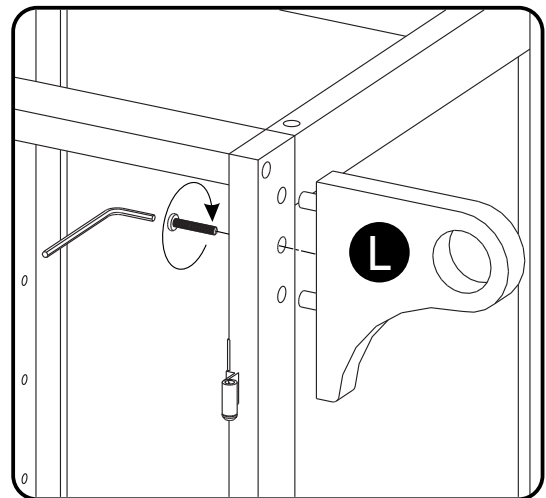

Figure 4
Attach Arm Handles (L) to unit with Head Cap Bolts. (See Figure 4)